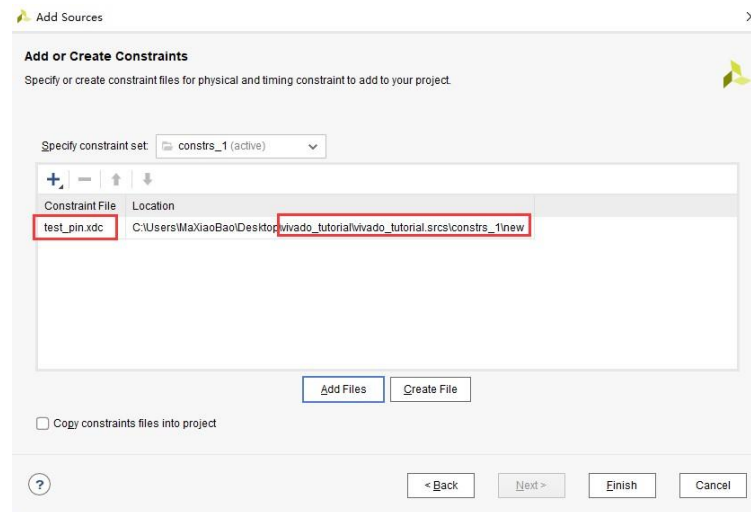

Figure 5.
4. Click **Add Files** and add your constraints file **test_pin.xdc** ,as shown in figure 5